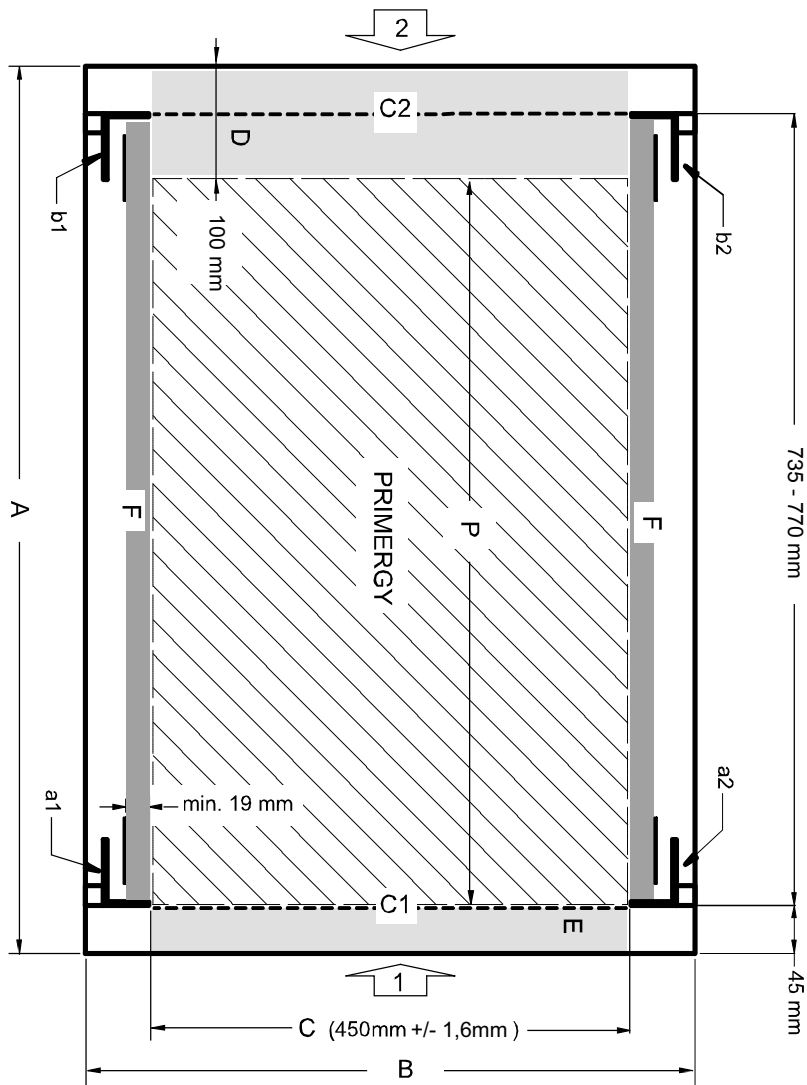

Figure 2: Mechanical requirements
– Installation dimensions (see the dimensions shown in figure 2 on page 49):